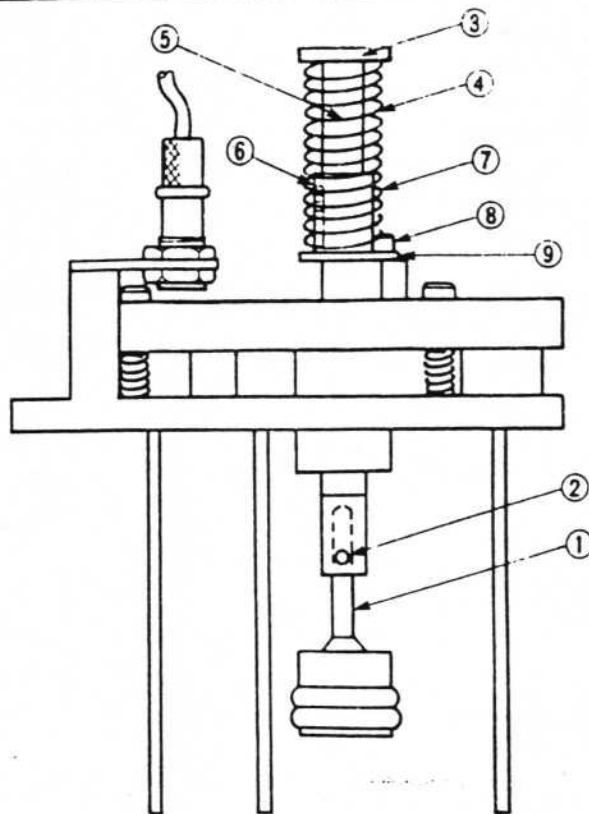

Fig. 16
2. Parts removal (see Fig. 16)